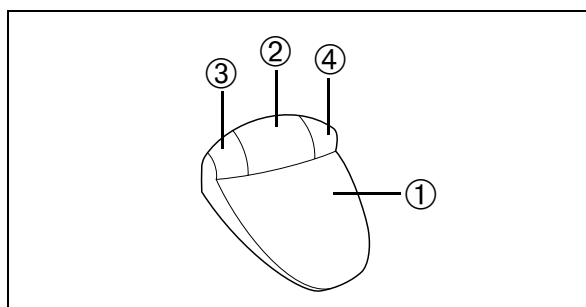

Fig. 36
The chip blower is activated by tapping the middle button ② (Fig. 36) on the foot control.